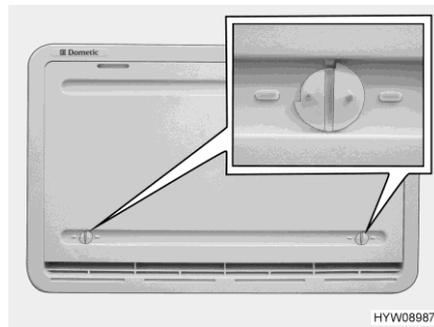

Fig. 247 Winter cover
If the refrigerator is to be operated at low external temperatures, the manufacturer recommends the use of a winter cover (Fig. 247) for the refrigerator ventilation grills.
- Open both locks (Fig. 247) (groove in horizontal position).